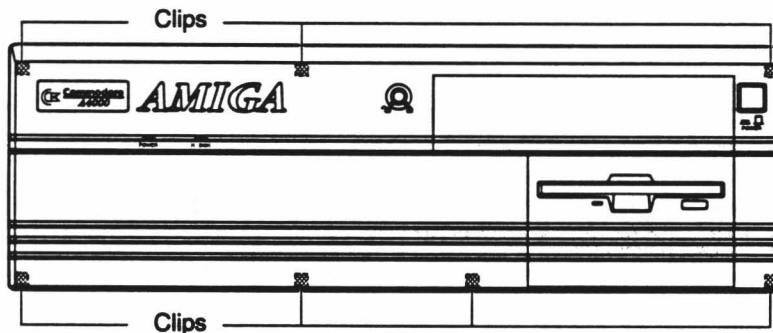

Figure 4-1. Front Panel Clip Locations
2. Remove the front panel. Use Figure 4-1 to locate the plastic clips located inside the system's front panel. The location is shown on the outside of the front panel, but the clips are attached to the panel's interior. Use needle nosed tweezers to squeeze the clips and pry them out of the system chassis. Pry the top three clips out first, then pry a lower corner clip out of the chassis. Move the front panel gently away from the system chassis.